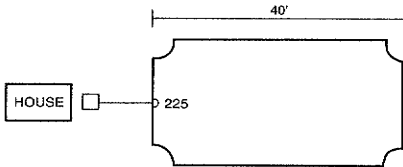

figure 1. Light Surface
- Single lens applications- Mount lens in the deep end of the pool. See examples in figure 1, 2, 3 for reference.